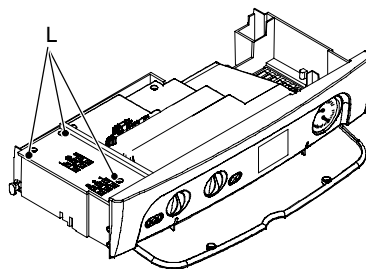

Fig. 6.11
- 5 Loosen the screws L and remove the service panel (Fig. 6.11).